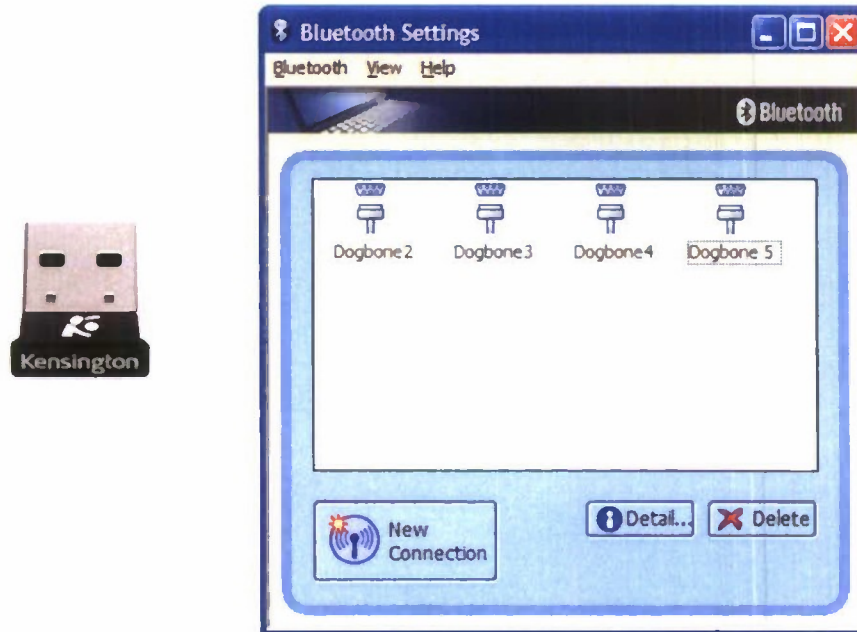

Figure 11. (Left) Bluetooth USB Micro Adapter (Model K33902US) from Kensington. (Right) PC software interface for the Bluetooth Stack for Windows by Toshiba.
3. Open the Bluetooth Control Panel. Start the Toshiba Bluetooth control panel (by selecting **Bluetooth->Bluetooth Settings** under the Windows **Start** menu, or by double-clicking on the **Bluetooth** icon in the Windows system tray). The control panel should look similar to Figure 11, though the central display could be blank.